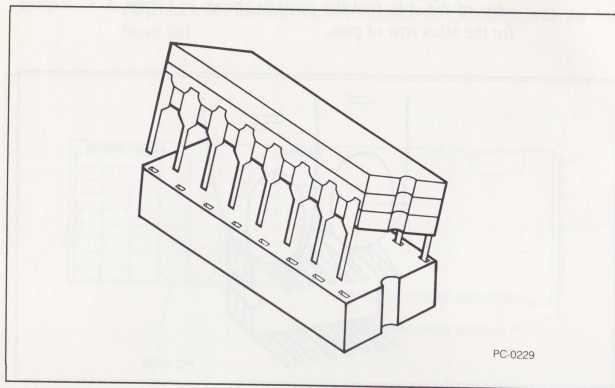

Figure A-4 *Inserting pins halfway in one side of the socket*
- 4 Carefully insert the pins on one side of the chip halfway into the holes on the same side of the socket. See Figure A-4.